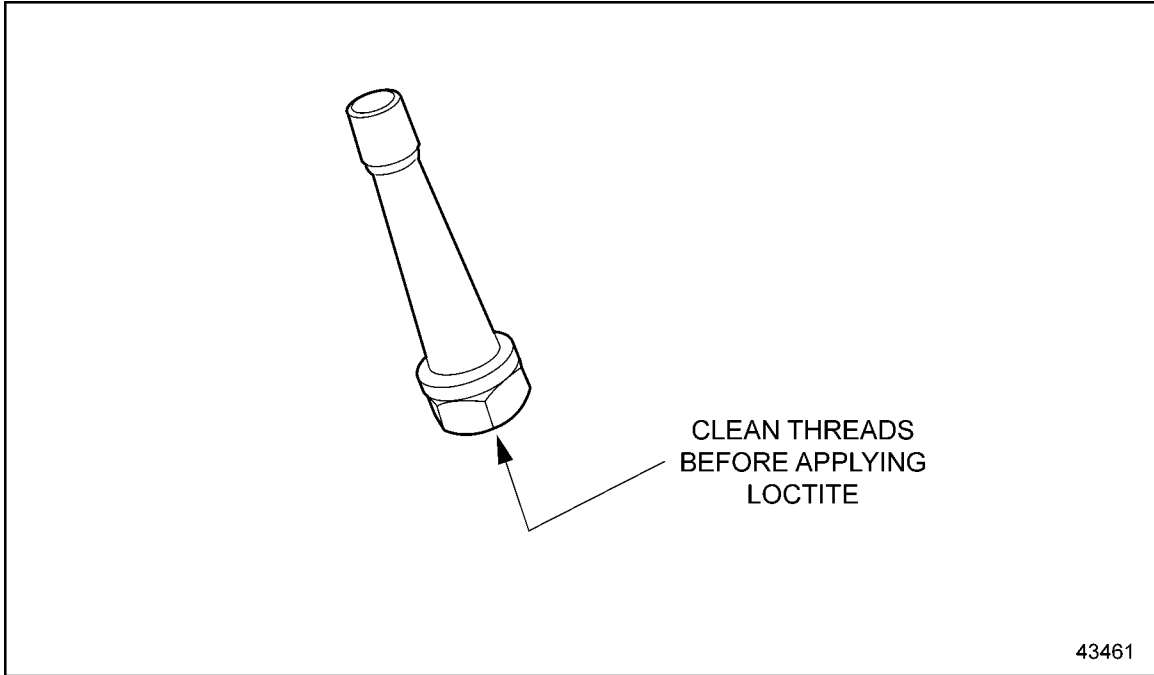

Figure 1 Clean Shaft Threads Before Installing into PTO
3. Using brake cleaner or other commercial de-greaser, thoroughly clean the female threads of the new shaft assembly and the male threads on the PTO shaft to ensure they are free of oil and grease. *Do not use mineral spirits, since this will leave a film. Do not allow the de-greaser to run onto the shaft bearing, since this may affect the bearing lubricant.* See Figure 1.
4. Apply medium strength Loctite® (blue color) to the shaft threads and install onto the PTO assembly. See Figure 1.